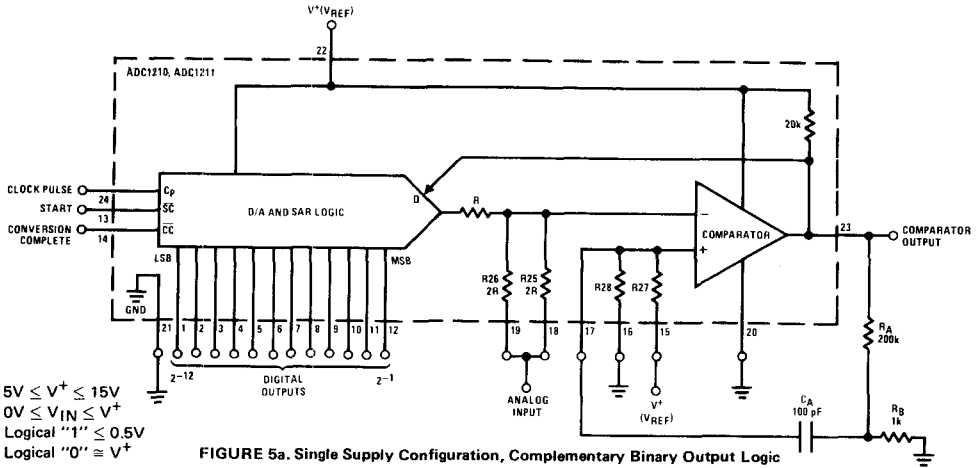

FIGURE 5a. Single Supply Configuration, Complementary Binary Output Logic
**Note 3:** Unless otherwise noted, this specification applies over the temperature range  $-25^\circ\text{C}$  to  $+85^\circ\text{C}$ . Provision is made to adjust zero scale error to 0V and full-scale to 10.2375V during testing. Standard linearity test circuit is shown in Figure 5a.